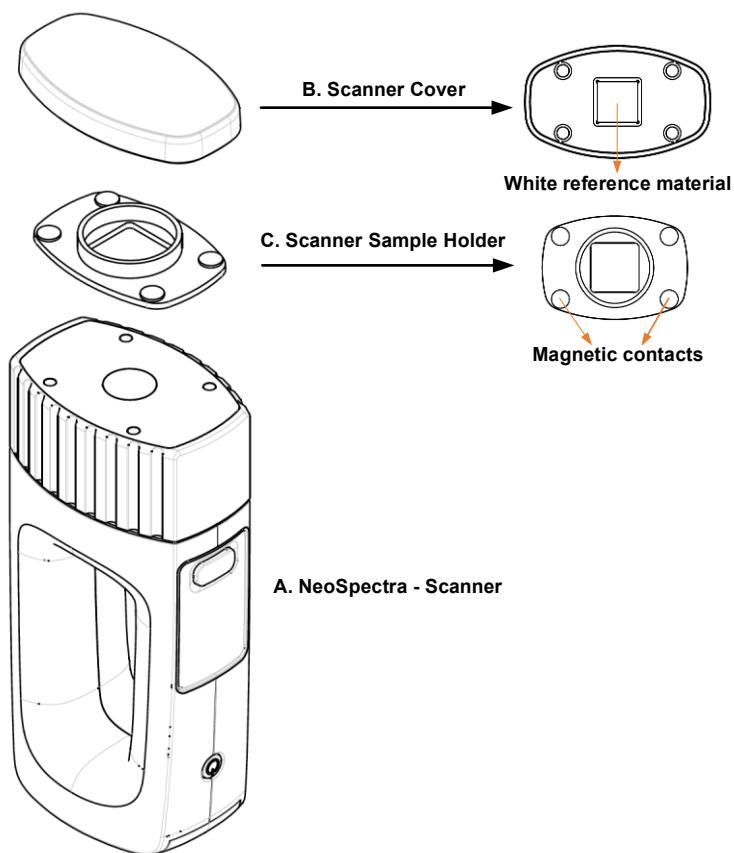

Figure 1: Main Case Components
- A. **ProxiScout™ Scanner:** The main spectra collection device (Figure 1).